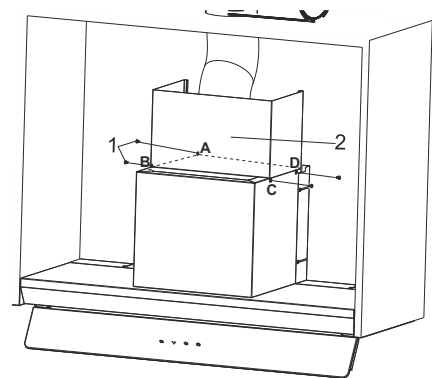

Fig. 16
5. ➔ Place the supplied sheet metal flues on the product (Fig. 16). Using the 4 connection screws through the A, B, C, D points to the appliance body (Fig. 16).